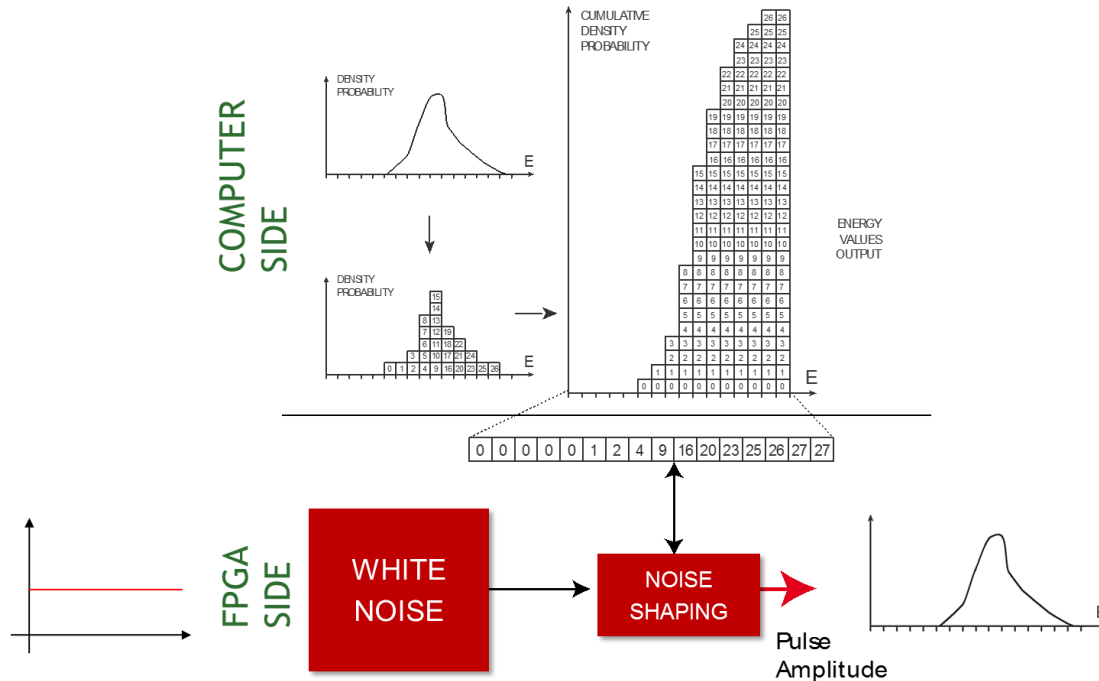

Fig. 6.2: Emulation of a spectrum.
With reference to **Fig. 6.2**, each square of each column is sequentially numbered. Consider the simplified case in which the total number of squares under the curve is a power of 2, e.g. $2^5=32$. Using 5 bit in the random number generator, all the 32 numbers can be obtained with the same probability, i.e. the random numbers map completely the area under the spectrum curve. Every time a random number is generated, the algorithm searches the number in the spectrum area and, when finds it, delivers the bin number n thus indicating the corresponding energy value E_n . If we consider again a generic x bin two times higher than a y bin, it is easy to see that, since the random numbers with equal probability map all the squares, there is twice the probability that the random number picks up a square in x rather than in y column, which means that generated pulses with E_x energy are twice those with E_y energy.
In this way, only one memory cell per bin is required. Using the cumulative spectrum, it is still possible to identify the bin that contains the generated random number by means of an extension of the described algorithm. For instance (see **Fig. 6.2**), if the random number is 18, it is easy to see that it belongs to the memory cell number 10: in fact, the cell number 10 contains a number that is higher than 18 (20), while the previous cell contains a number that is lower (16); this means that bin number 10 contains the squares that go from 16 to 19, exactly the range in which 18 belongs. So the output energy value correspondent to the random number 18 is 10.